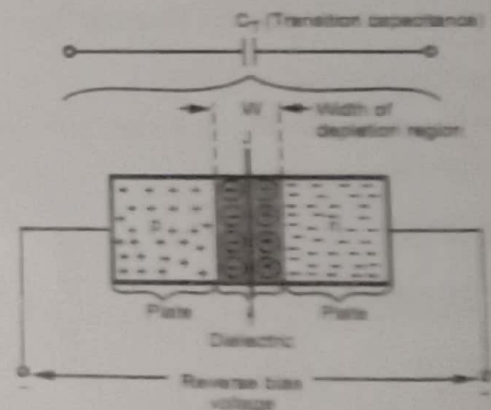

Fig. Q.15.1
- In a reverse biased diode, the depletion region exists between p-region and n-region as shown in the Fig. Q.15.1.